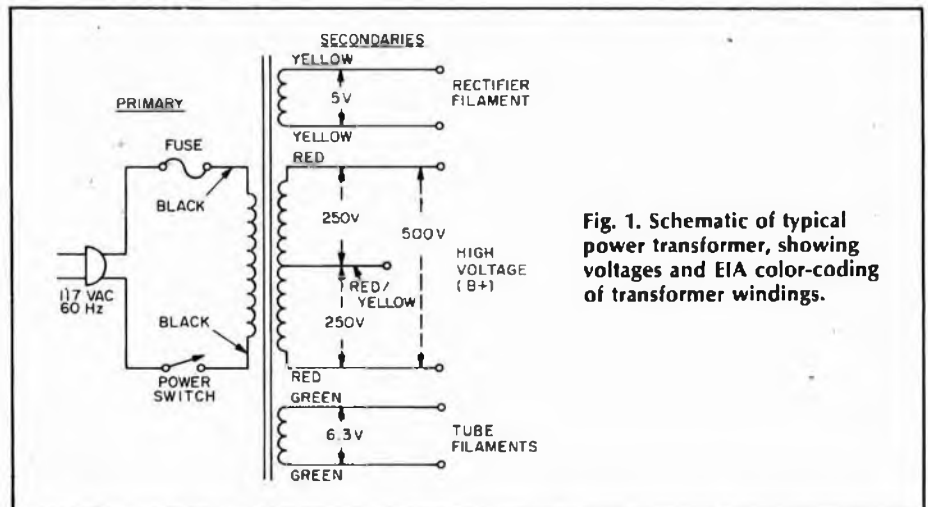

Fig. 1. Schematic of typical power transformer, showing voltages and EIA color-coding of transformer windings.
**The Transformer.** In Fig. 1 is a typical power transformer that's been produced by the millions with only slight variations. As we'll see, the transformer acts to create a voltage change between its primary and various secondary windings. The trick's based on the turns-ratio between the various windings. If turns in the secondary number twice those of the primary, then output voltage doubles; if turns in the secondary are a fraction of those in the primary,
Thus, in Fig. 1, the rectifier filament, which operates at 5 volts, has few turns compared to the primary; the high-voltage winding at 500 volts, however, has about five times as many turns as the primary. The colors shown for the windings, incidentally, are standard and observed by many transformer manufacturers.